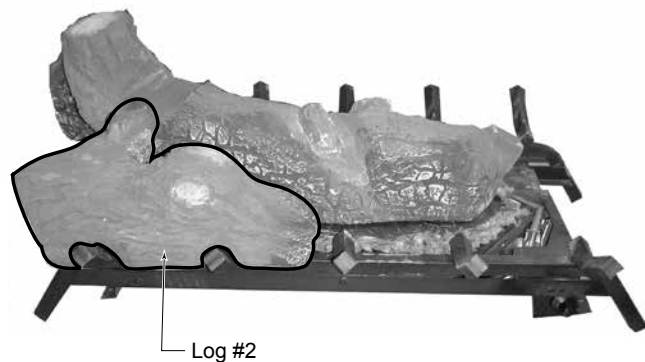

Figure 5.2 - Place Log #2
2. Place log #2 on left grate tines by aligning the 'V' notches in the log with grate tines. The groove on the bottom of the log should be firmly seated on the grate bar. *Figure 5.2*